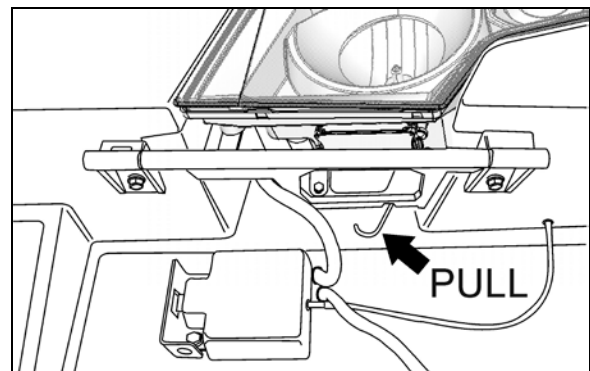

FIGURE 29: ROCKING THE HEADLIGHT ASSEMBLY
3. Pull on the rod shown on figure 29 to pivot the headlight assembly.